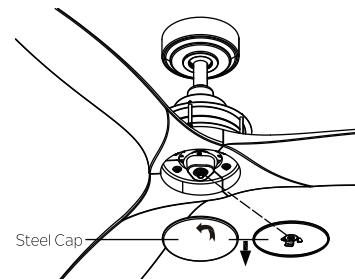

Fig. 21
**Step 1.** Remove the steel cap by turning the steel cap in a counter clockwise direction.(Fig.21)